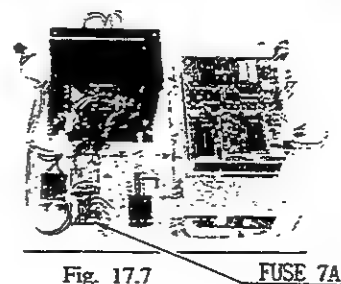

Fig. 17.7
- ⑥ The PC BOARD of the Power Supply Unit has a fuse shown (Fig. 17.7).